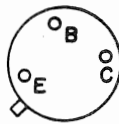
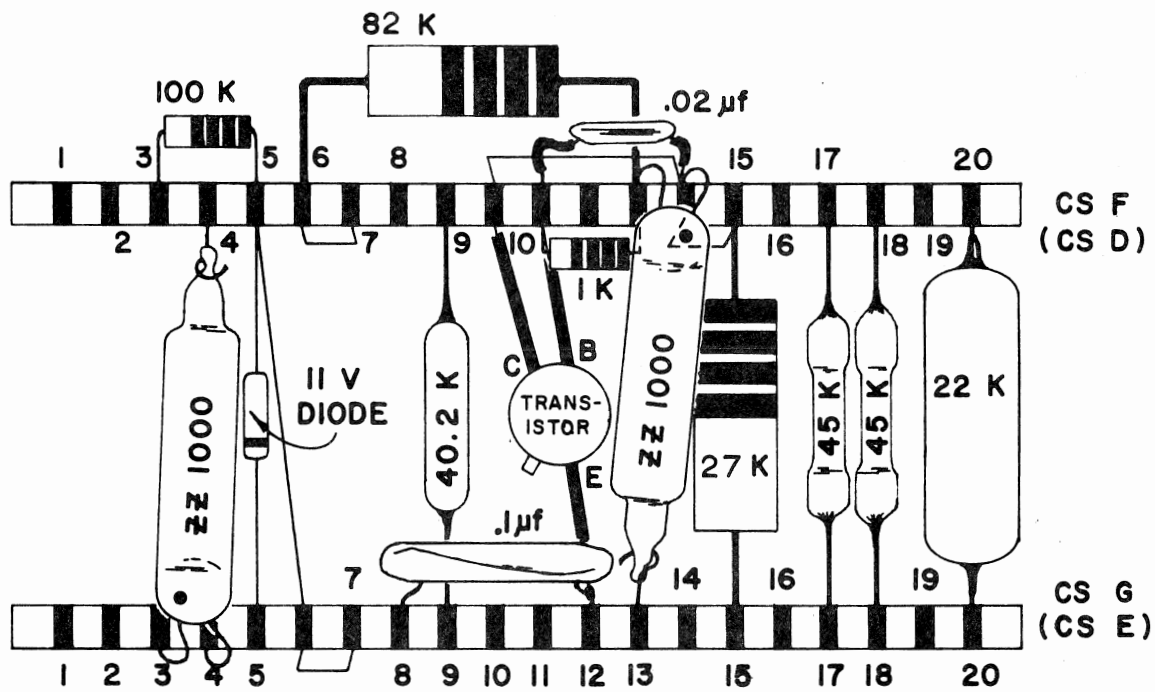

Fig. 4
Fig. 5
- B. 5. Solder the following wires and components to the points indicated in Fig. 5. (Parts from kit except as noted.)
- ( ) 6. Place a 1/2 in. length of plastic tubing (from kit) on each lead of the special transistor from the kit. Solder transistor leads as follows (see Fig. 5). NOTE: Transistor base diagram is shown in Fig. 4.